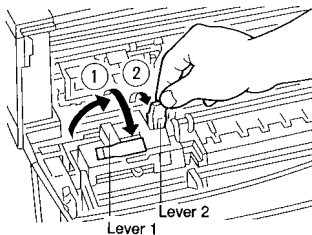

Figure 1-13
- 3) Shift feeder assembly release lever 1 to the right and to the front as shown in Figure 1-13; then, shift release lever 2 to the front.